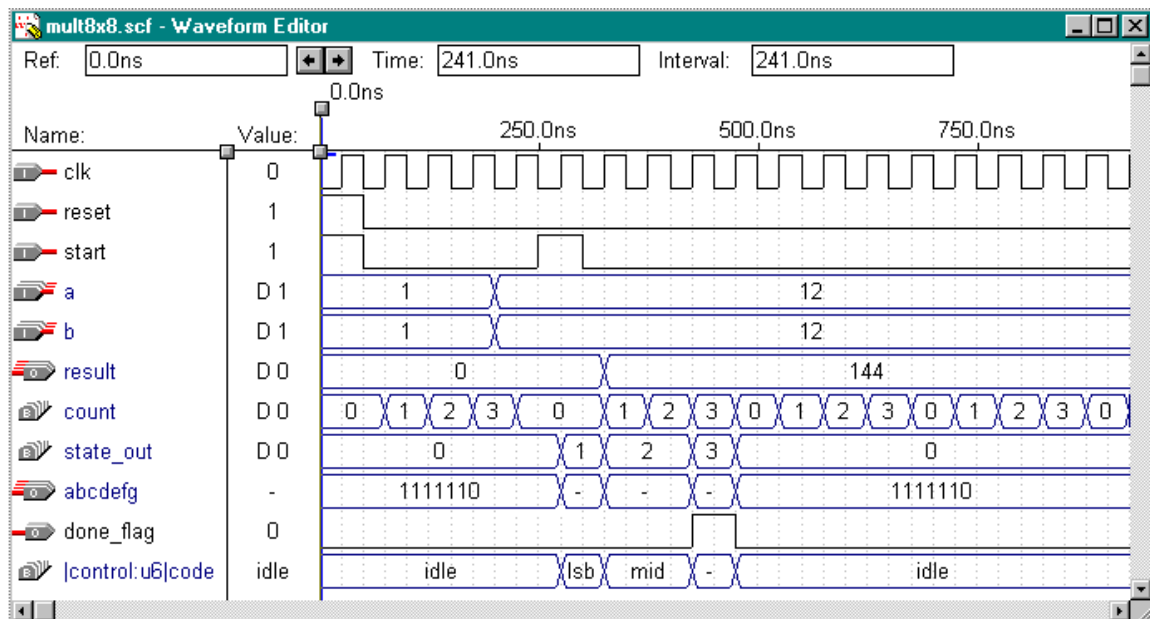

Figure 6-5.
5. Check to see if you get the same results shown in Figure 6-5.